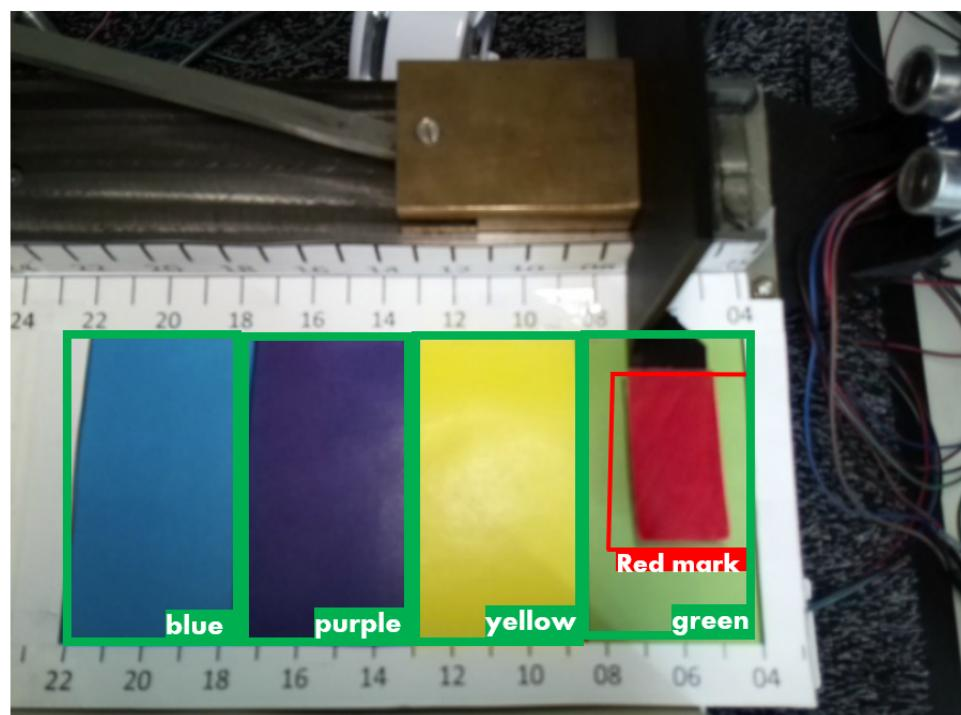

Figure 5.1: Image captured with the Camera Module connected to the Raspberry Pi B. The red mark and the colors are highlighted and labeled using OpenCV
2. Label and highlight the colors and the red mark as shown in Figure 5.1 (**4 points**)
1. `process_frame()`: This method has a `frame` parameter/argument, which is a frame captured by the Raspberry Pi camera, or returned by the fake camera if you are working on your local computer. It should process the frame and identify to which color the red mark is pointing. Use OpenCV to track, highlight and label the red mark and the color in a frame similar to the one presented in Figure 5.1. You can use [8] as a starting point for learning how to detect colors using OpenCV.